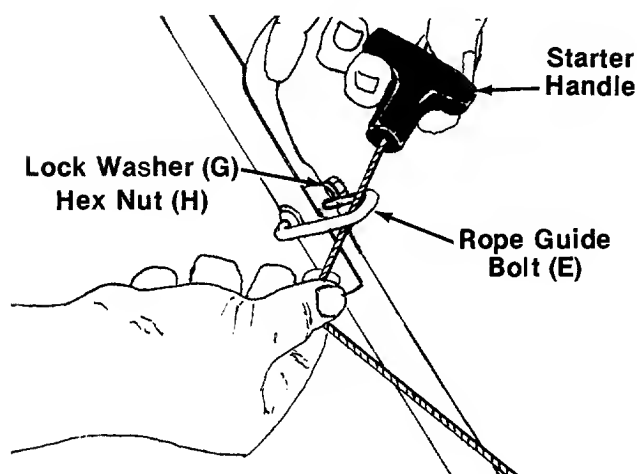

FIGURE 4.
3. Insert the rope guide bolt (E) through the right hand side of upper and lower handle.
5. Slip the starter rope into the rope guide bolt as shown in figure 4. Secure the rope guide bolt with lock washer (G) and hex nut (H). If more slack is needed in the starter rope, disconnect and ground the spark plug wire. Depress the blade control handle and pull additional rope out from the engine.